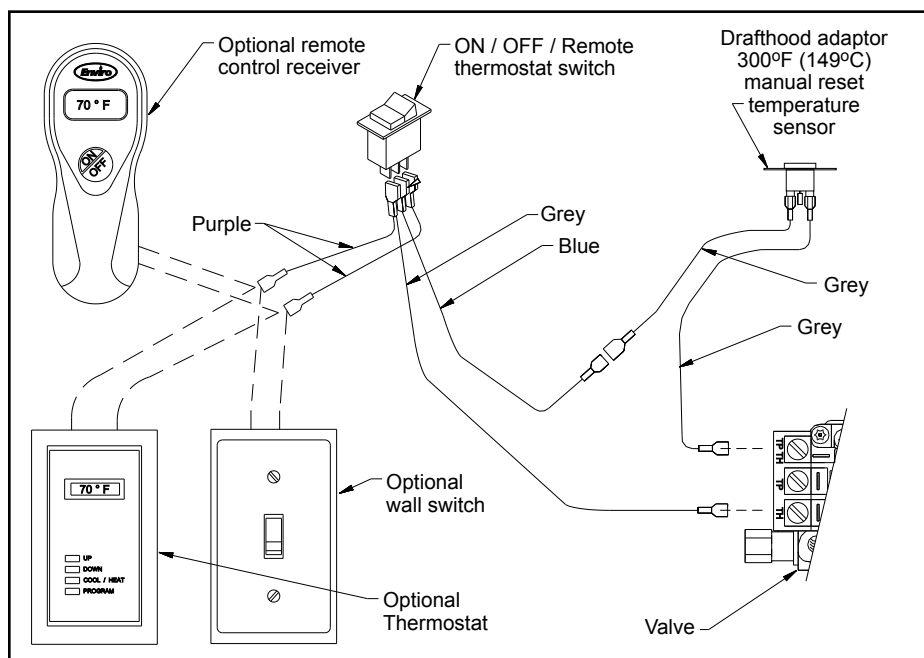

Figure 45: Wiring Diagram for Electrical Connection.
3. Being careful not to run any wiring tight across metal edges; connect them to the valve and "ON/OFF" switch (refer to Figure 45).
The fireplace connections are labelled in Figure 45. When installing the Draft Hood Adaptor onto a fireplace fitted with an optional wall switch or an optional thermostat, remove one wire from the switch to the gas valve and connect the Draft Hood Adaptor harness as shown in Figure 45.
2. Disconnect the spill switch wires from the valve and on/off/remote rocker switch wire (see Figure 45).